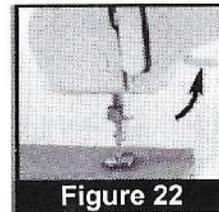

Figure 22
2. Lift the presser foot. Place the fabric beneath the presser foot at exact spot where you want to begin sewing. (Figure 22)